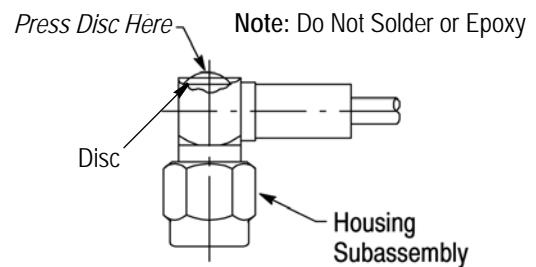

Figure 4
8. *Manually* press the disc into the opening at the back of the housing subassembly. See Figure 4.